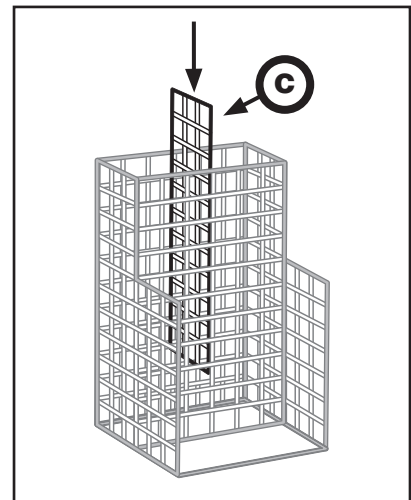

Figure 3
- 6** Insert and attach large divider grid (**C**) as in *Figure 3*.